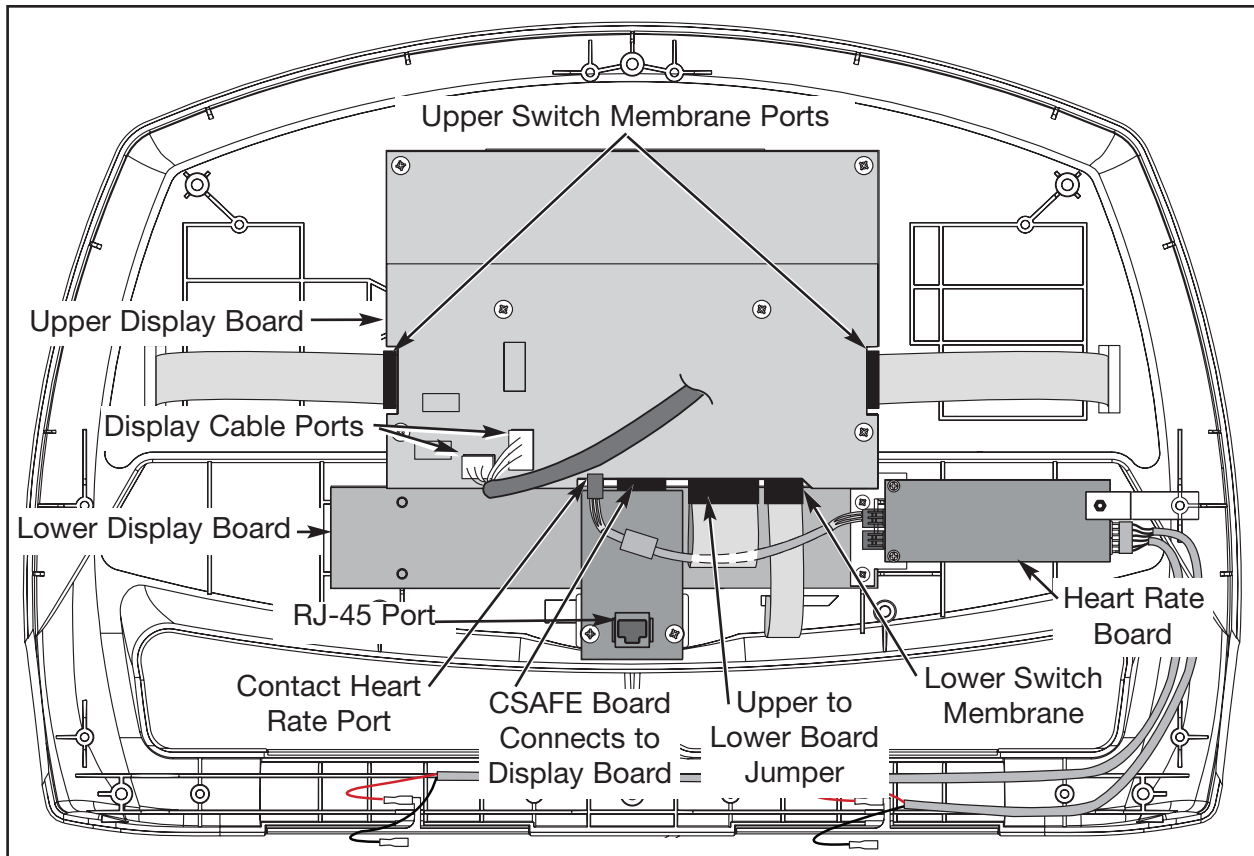

Figure 25 **NOTE:** This figure does not show handrails or lower console back.
- A. Disconnect these cables from the display board: the display cable (2 connectors); the two upper switch membrane connectors; the lower switch membrane connector; the contact heart rate cable and the upper to lower board jumper. See Figure 25.
- A. Connect these cables into the display board: the display cable (2 connectors); the two upper switch membrane connectors; the lower switch membrane connector; the contact heart rate cable and the upper to lower board jumper. See Figure 25.
- B.** Gently pull the CSAFE board down to disconnect it from the display board. See Figure 25.